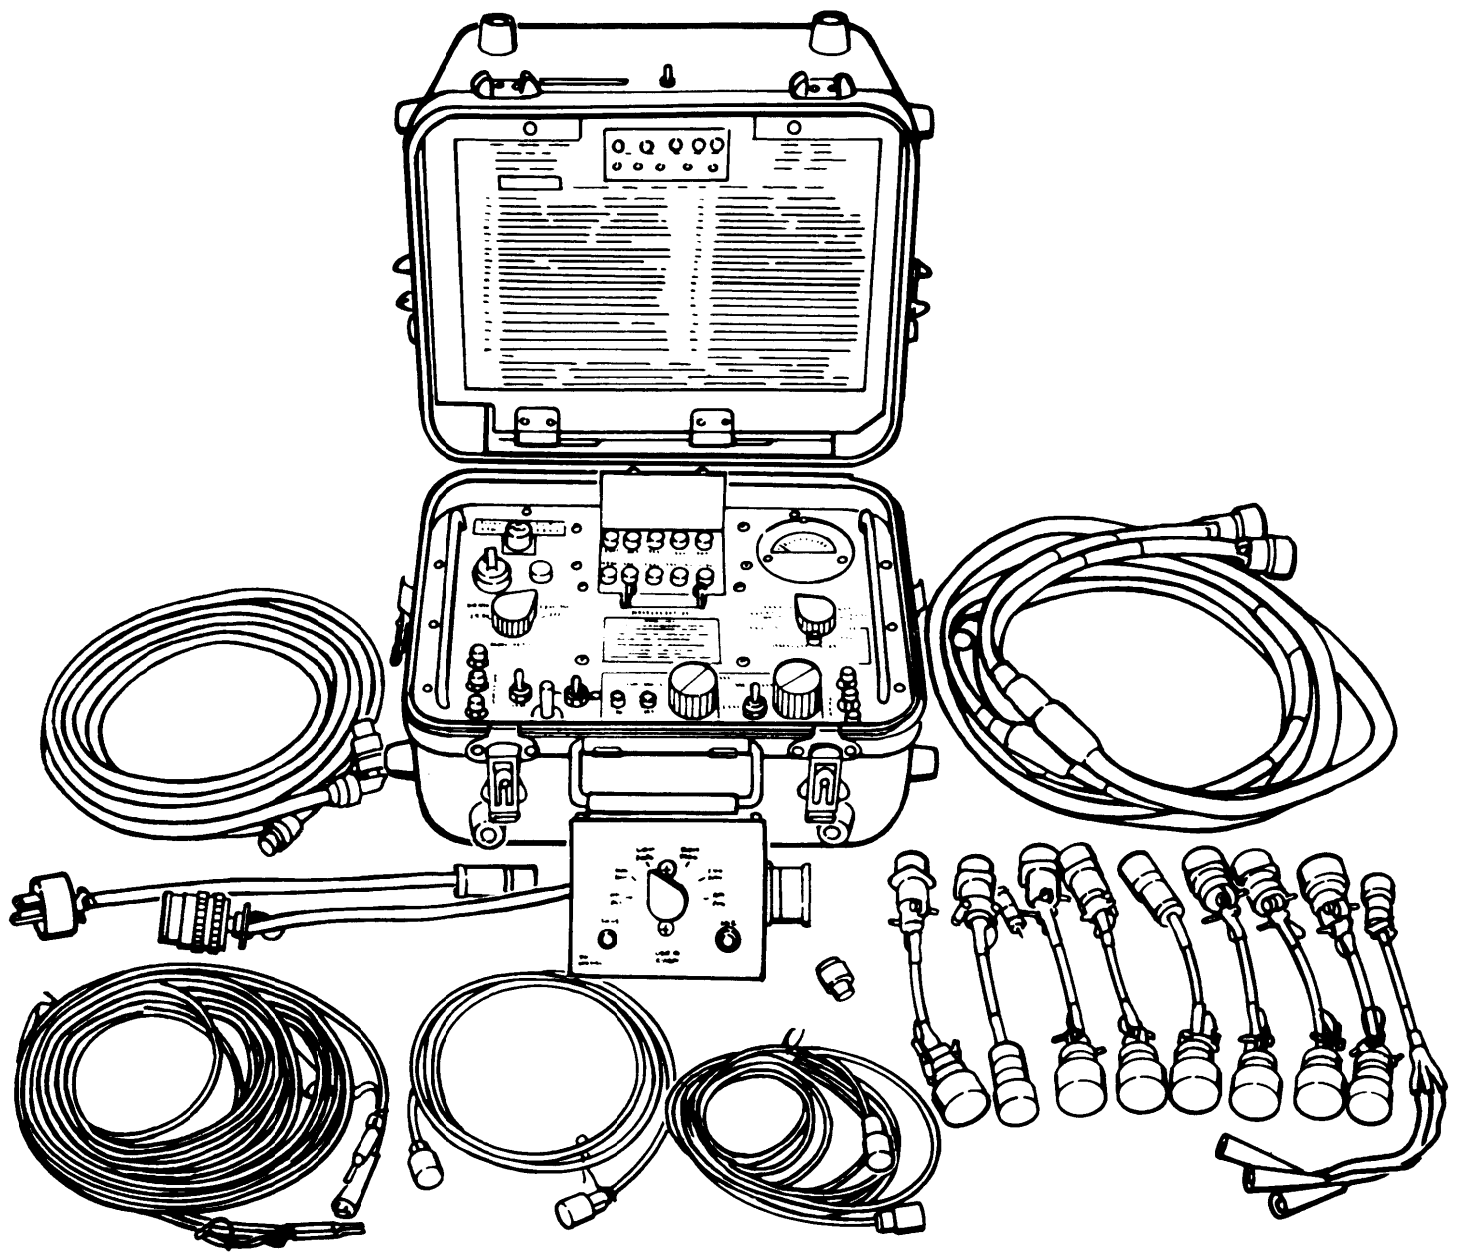

Figure 1-1. Fuel Quantity Test Set
**1-1. General.** This technical manual describes operation and maintenance instructions for the Fuel Quantity Gage Test Set, Part Number 472090-002, (Refer to Fig. 1-1), designed and manufactured by Simmonds Precision, Instrument Systems Division, Vergennes, VT 05491.